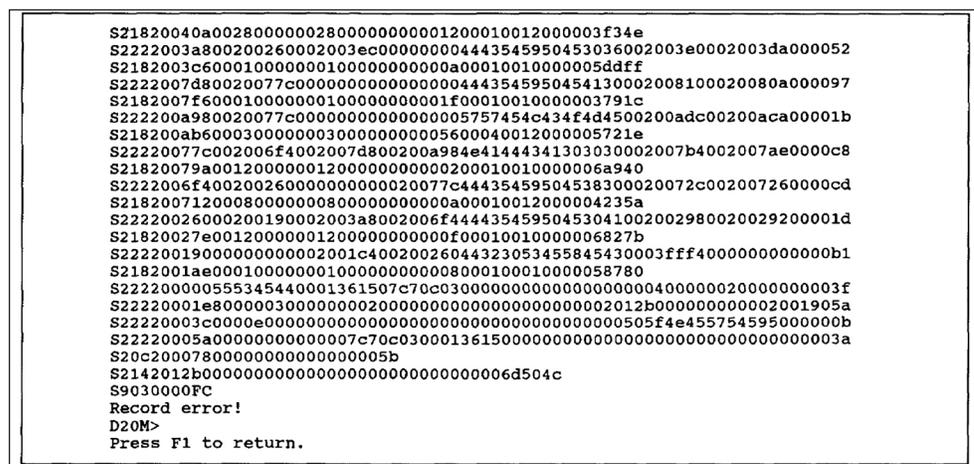

Figure 29. The *D20_M* screen.
STEP 24. Using the arrow keys, select the **Go online with D20_M** option and press the <ENTER> key. The *D20_M* screen will open. See Figure 29.